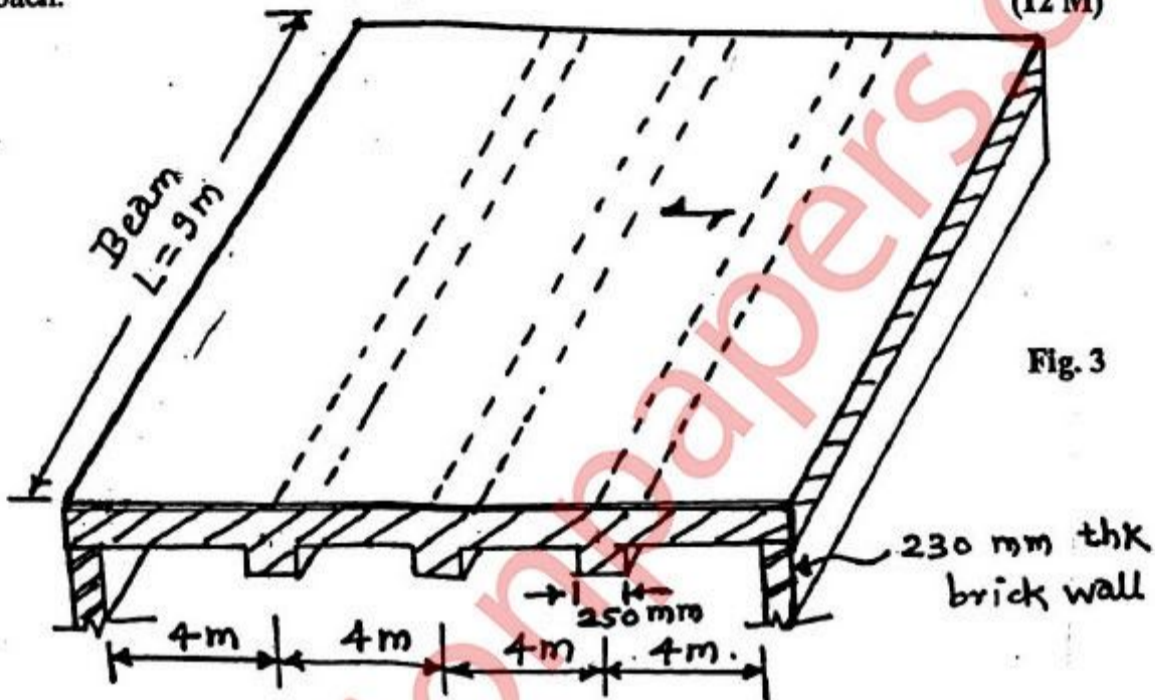

Fig. 3
Q. 6) (a) A hall in a building has a floor consisting of a One-Way Continuous Slab cast with Simply Supported beams of width 250 mm, spaced at 4 m c/c (fig. 3) The clear span of the beam is 9 m. Assuming a Live Load on the slab as  $3 \text{ kN/m}^2$ , partition load as  $1 \text{ kN/m}^2$  & load due to finishes as  $0.6 \text{ kN/m}^2$ , design the slab with M20 grade concrete & Fe415 steel. Draw reinforcement details. Adopt Limit State approach. (12 M)